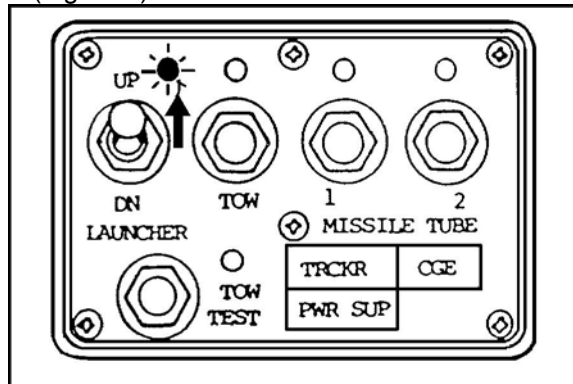

Figure 3. TOW launcher UP-DN switch and indicator lights.
4. Raise the TOW launcher (Figure 3).